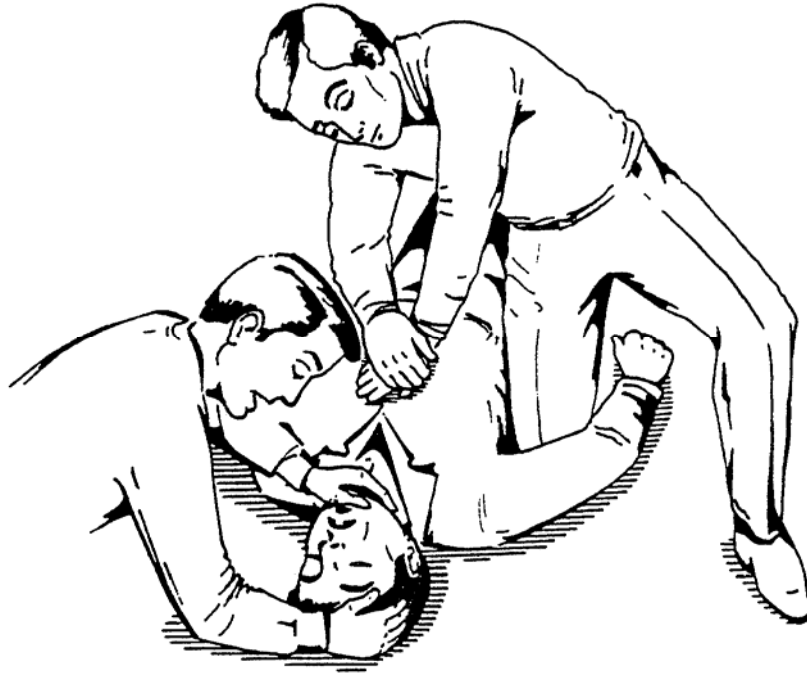

Figure 3 - External rib cage massage is made by the rescuer placed on the right side.
- Rhythmical thorax compression ensure circulation, respiration will be obtained by associating the "mouth to mouth resuscitation" method made preferably by a second rescuer (refer to figure 3).